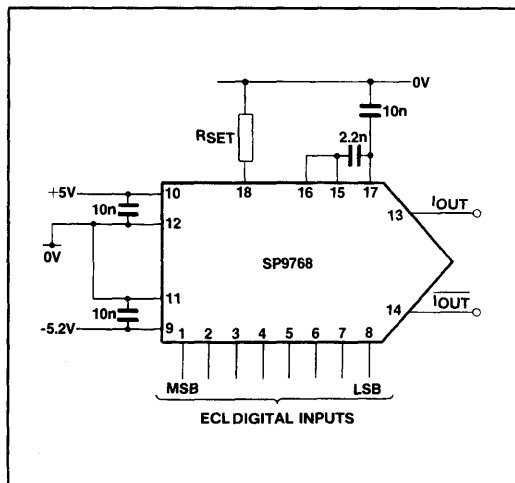
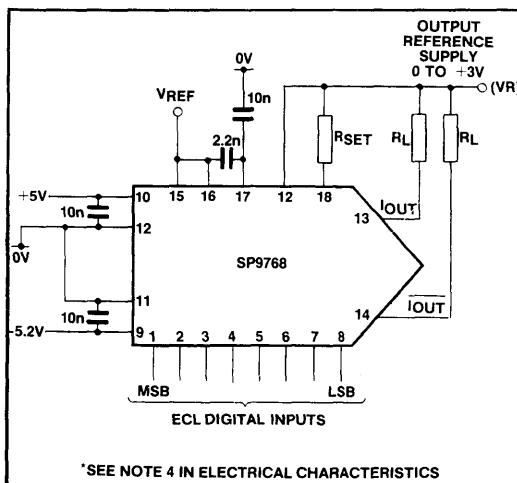

Fig.3 Conventional D/A operation using on-chip reference
Fig.4 Voltage output referred to a positive voltage
4. The output positive compliance can be increased beyond +1.0V at the expense of linearity. See Fig.4 for circuit configuration.
The reference supply is internally compensated; however, to reduce the possibility of instability or noise generation, pin 21 should be decoupled as shown in Fig.4. The current loop technique has been used with a high performance loop amplifier. The current is set by an external resistor as described above. Stabilisation of the loop amplifier is achieved by a single capacitor from pin 23 to ground. Minimum value is 3900pF, although a 10nF chip ceramic is recommended.
Fig.3 shows a suggested circuit for a conventional D to A using the on-chip voltage reference.
Fig.4 shows the method of using the SP9768 with a load resistor not referred to ground, allowing a larger output swing than the conventional connection of Fig.3. Connecting pin 12 and the current setting resistor R_{SET} to the load reference supply ensures that the scale factor of the output is independent of the load reference.